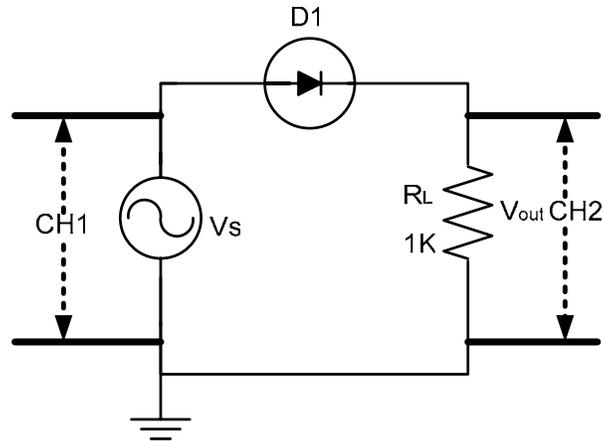

Figure 2
2. For the circuit of Figure 2, assume a Zener diode with a forward drop of 0.7V and a $V_z=5.1V$. For a sinusoidal input of (5V, 5kHz) sketch the output and label the points. Does the output shape change if the input amplitude is increased to 10V (peak)?
2. For the Circuit of Figure 2, set the signal generator with sinusoidal input of 5kHz with amplitude of approximately 5V. (Make sure the DC offset on your signal generator is zero.) Sketch the input versus the output as a function of time. Use the X-Y mode of Oscilloscope to plot transfer function.
- Q2. Draw the circuit in Figure 2, using PSPICE. Apply sinusoidal input voltage with 5V amplitudes and 5 kHz Frequency. (Double click the *VSIN* source and change only *Vamp* and *Freq*, and make all other values zero). Go to *analysis* → set up choose transient analysis, choose print step—20ns, Final time—1ms (5cycles), save and choose *Simulate* from *analysis*, you will observe a Probe Window, Go to *Trace* → to *Add Trace*, in that add the input and output traces. (Note: You can also use *voltage Marker* to plot the input & output directly). Repeat the same procedure for Zener diode with 5V and then 10V amplitude at 5 KHz Frequency.